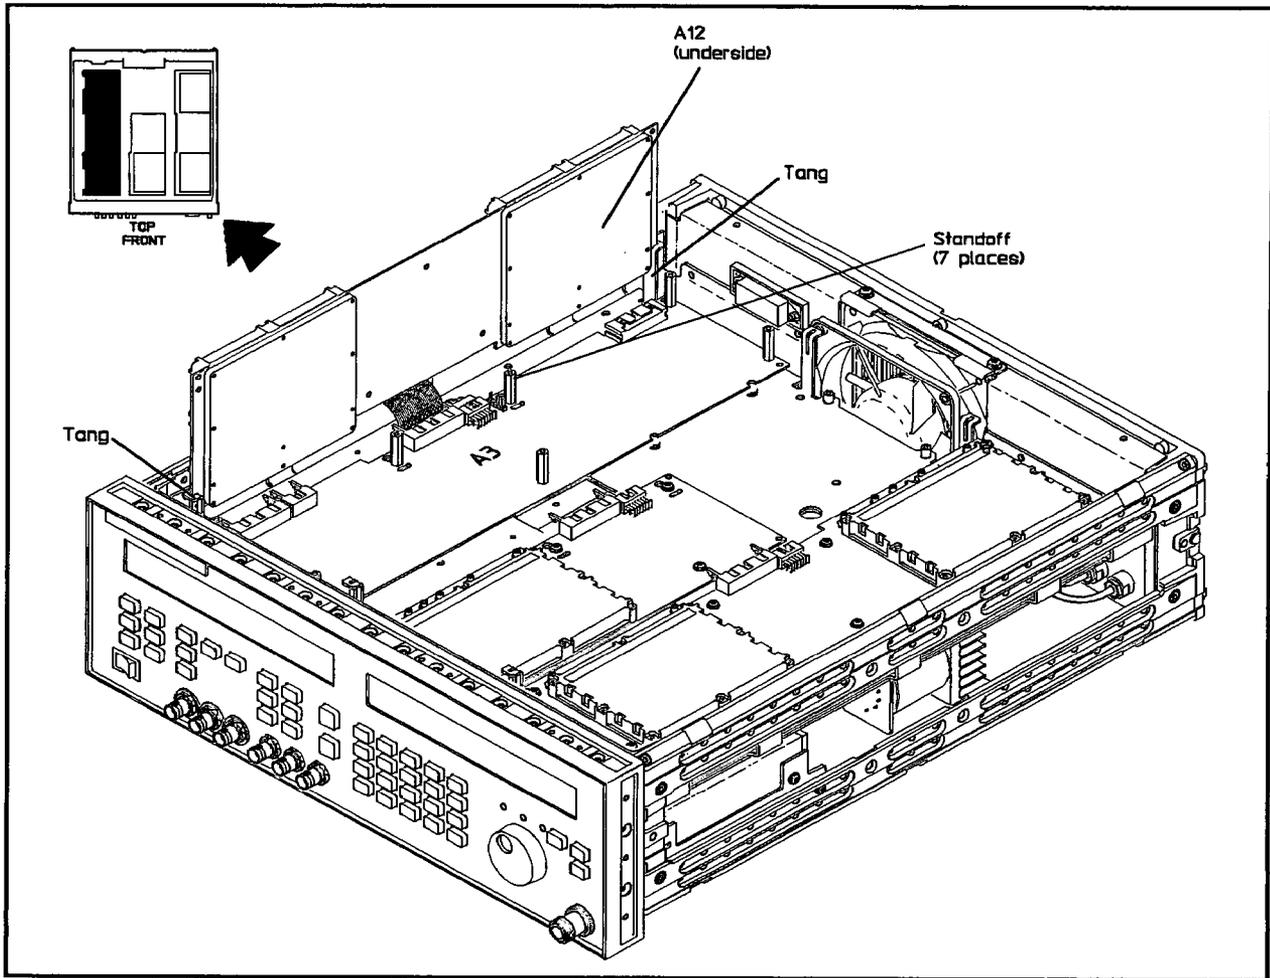

Figure 5-18. Microprocessor Board Service Position
4. Position the modulation source board assembly, A12, in the tangs as shown in Figure 5-18.
4. Position the modulation source board assembly, A12, in the tangs as shown in Figure 5-18. This is the *service position* for the microprocessor board assembly, A3.